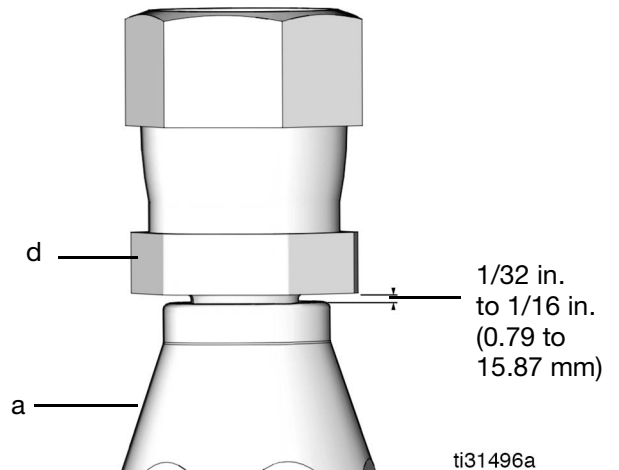

FIG. 66
- Leave 1/32 to 1/16 inch (0.79 to 15.87 mm) clearance between socket (a) and hex (d) (FIG. 66).